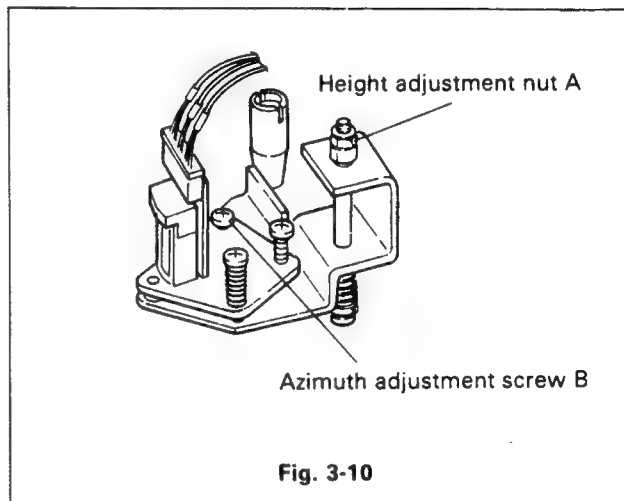

Fig. 3-10
Improper height adjustment of the audio and control heads lowers SN, when a recorded tape is reproduced. (Refer to Figure 3-10.)
- (1) Connect the oscilloscope's CH1 to the Audio output terminals on the rear panel.
- (2) Play back a 7kHz audio signal recorded in the alignment tape (MH-2).
- (3) Observe the audio signal waveform on the scope display and adjust the azimuth adjusting screw B for maximum output level.
- (4) Adjust the height adjusting screw A as shown in Figure 3-10 for maximum output level.
- (1) Connect the oscilloscope's CH1 to the test pin TP501 on the preamplifier circuit board and the CH2 to the test pin TP610 on the S/S circuit board.
- (2) Play back the alignment tape (MH-2) and adjust the taper pin until maximum amplitude of the FM waveform is obtained with the tracking control set at its center position. (Refer to Figure 3-10.)